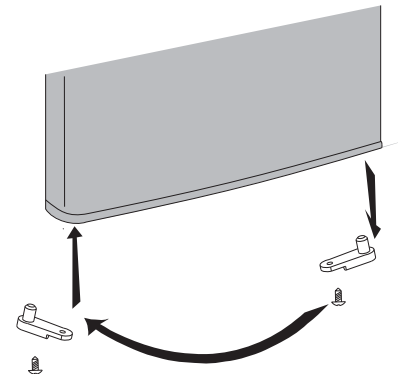

Figure 6
- 6 Move the door stopper located on the right side of the door to the left side as shown in Figure 6. If your unit has 2 pre-installed door stops, one on each side, this step is not necessary. Install the door onto the lower hinge located on the left side.